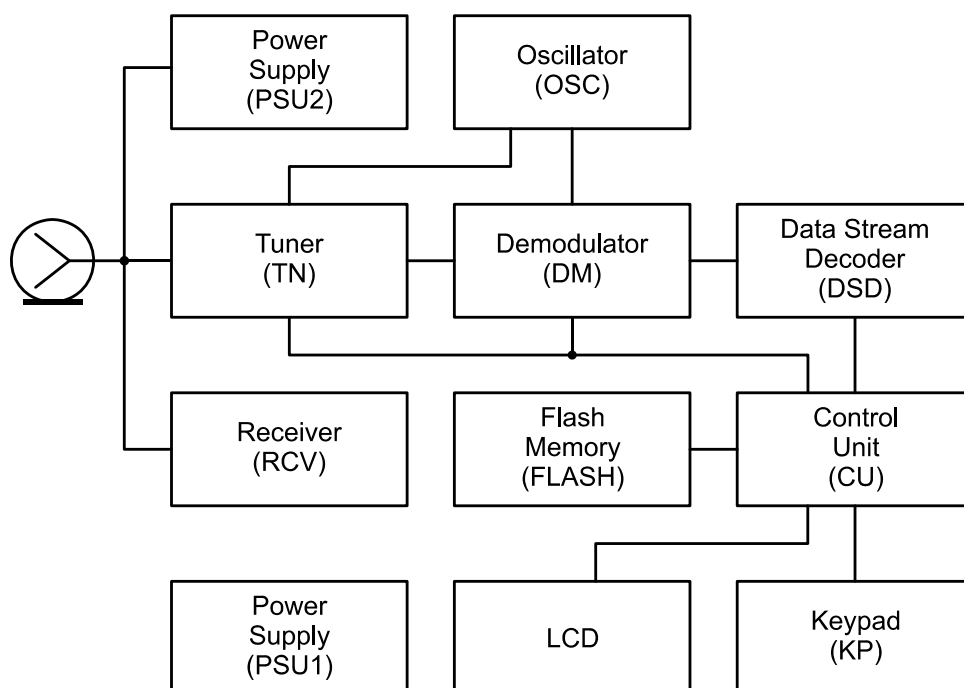

Figure 2.5.1
The block diagram of IT-12 Analyzer is shown in figure 2.5.1. Input signal is injected into the Tuner (TN), which is a heterodyne receiver with quadrature mixer of zero intermediate frequency (IF). The DVB-S/S2 signal demodulation, reception quality and signal level determination are performed by Demodulator (DM). As the data stream in MPEG-2 format exits the DM, it immediately enters the Data Stream Decoder (DSD), the purpose of which is separating of the identification data. Reference clock rate frequency formation required for the operation of the Tuner and Demodulator is produced in the Oscillator (OSC).